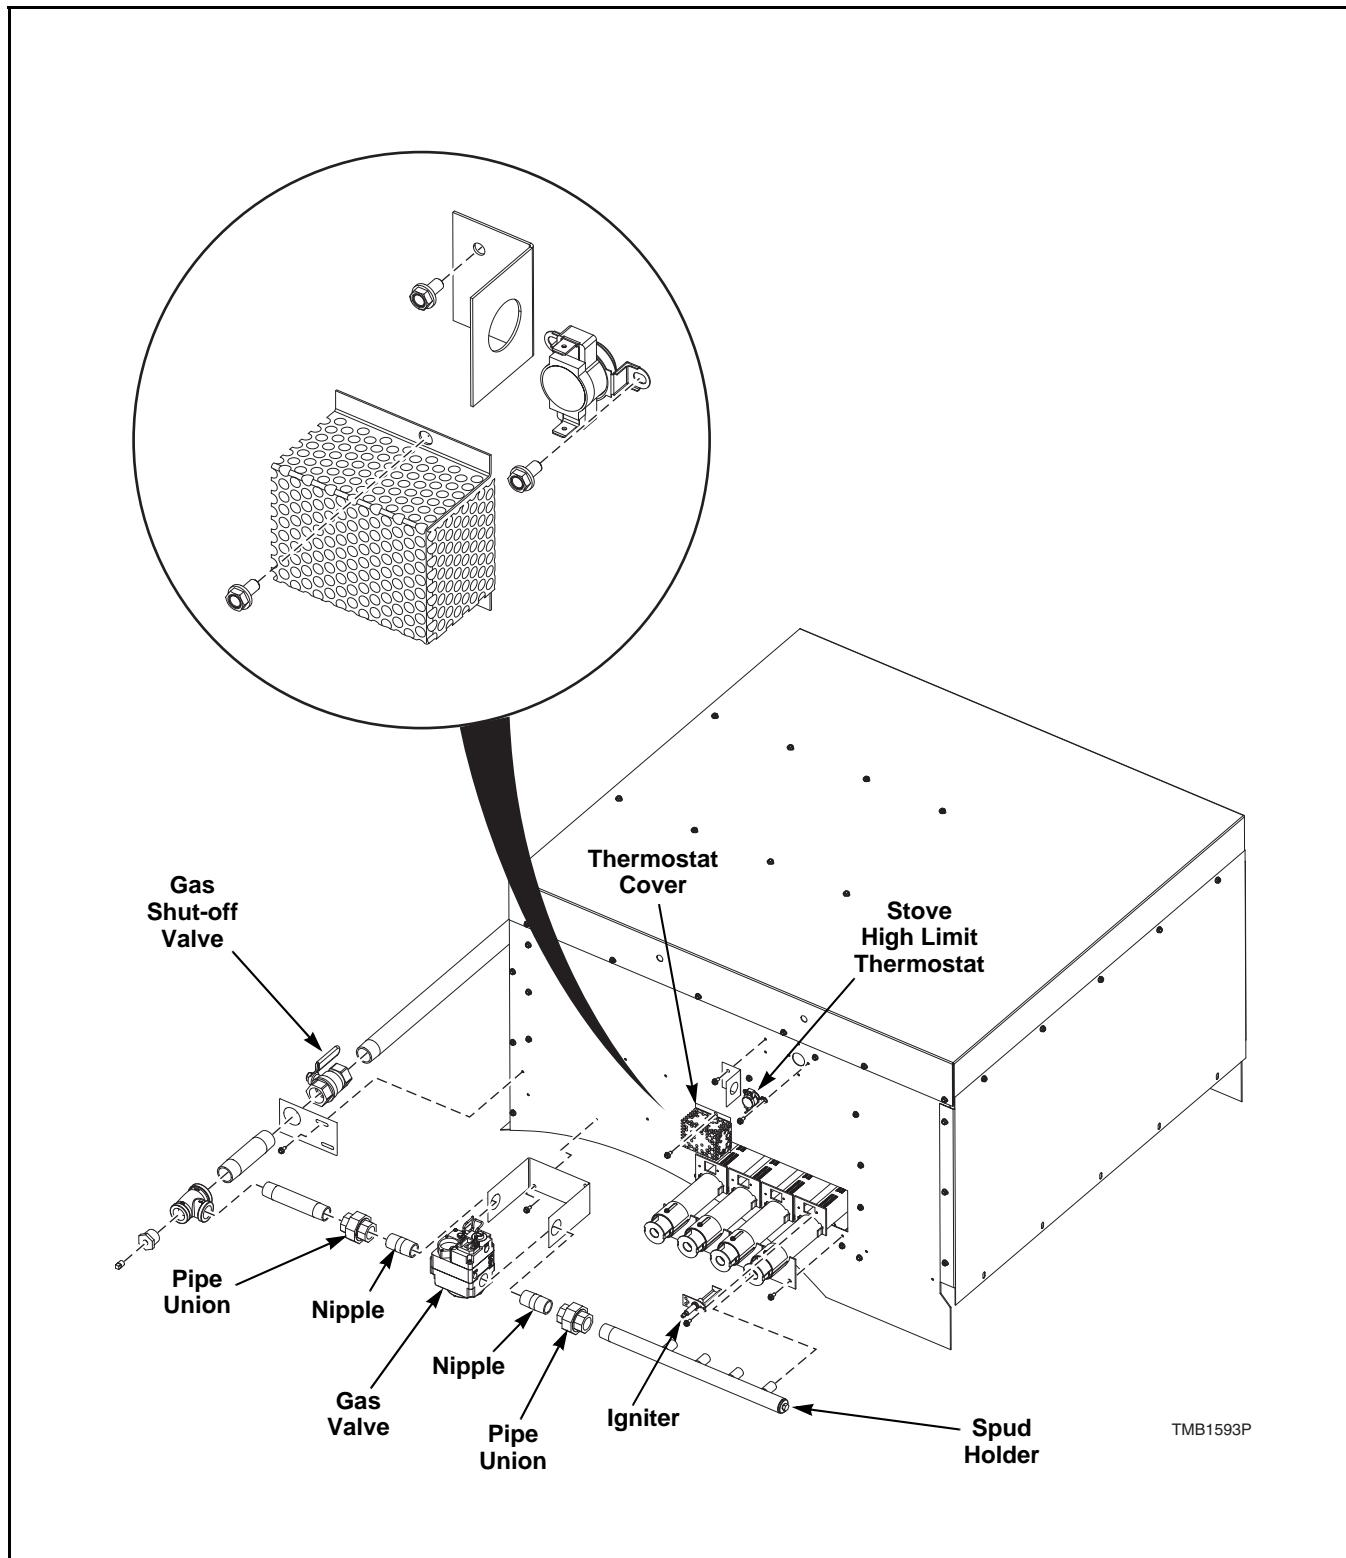

Figure 9
- c. Close gas shut-off valve. Refer to *Figure 9*.
Refer to *Figure 9*.
- d. Disconnect union nut attaching nipple to spudholder and remove spudholder. Refer to *Figure 9*.
- d. Remove thermostat cover. Refer to *Figure 9*.
- f. Remove the two thermostat attaching screws. Refer to *Figure 9*.